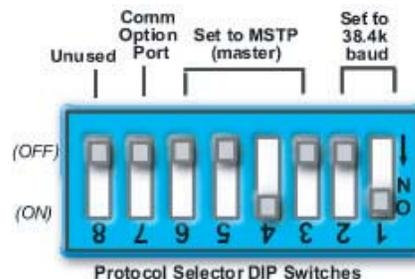

Fig. 67 - RTU-MP SW3 Dip Switch Settings
The RTU-MP can be set to communicate on four different protocols: BACnet, Modbus, N2, and LonWorks. Switch 3 (SW3) on the board is used to set protocol and baud rate. Switches 1 and 2 (SW1 and SW2) are used to set the board's network address. See Fig 67 for the switch setting per protocol. The 3rd party connection to the RTU-MP is through plug J19. Refer to the *RTU-MP 3rd Party Integration Guide* for more detailed information on protocols, 3rd party wiring, and networking.
2. Verify that the BAS and controller are set for the same baud rate. The baud rate of the controller is set via SW3 (switches 1 and 2). The baud rate can also be verified via the BACview by obtaining a Modstat. (See Fig. 67.)